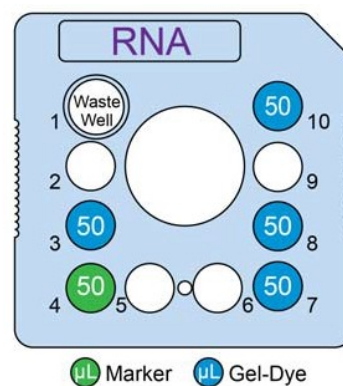
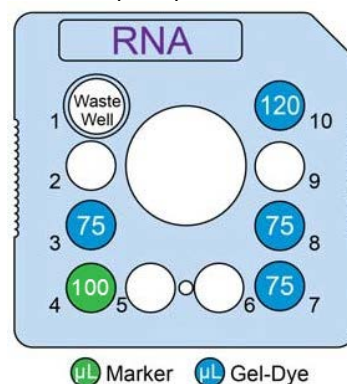

Figure 1. Low-Throughput Chip Preparation
Figure 2. High-Throughput Chip Preparation
2. Using a Reverse Pipetting Technique, add Gel-Dye solution to chip wells 3, 7, 8, and 10 as shown in **Figure 1 (LT)** or **Figure 2 (HT)**.
3. Add **50 μ L (LT)** or **100 μ L (HT) Small RNA Marker ●** to chip well 4 as shown in **Figure 1 (LT)** or **Figure 2 (HT)**.